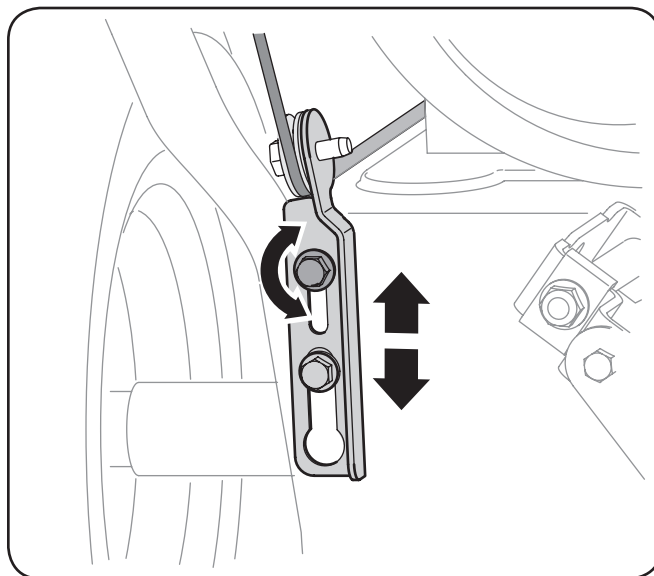

Figure 3-18
4. Allow the auger to remain engaged for approximately ten (10) seconds before releasing the auger control. Repeat this several times.
8. Position the bracket upward to provide more slack (or downward to increase cable tension). See Fig. 3-18.